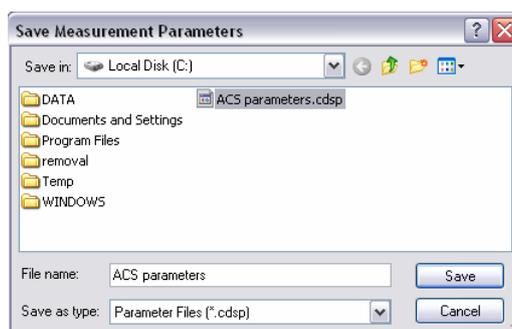

Figure. 4.7 [Save parameters] dialog box
- (2) Select a location to save the spectrum by clicking the arrow on the extreme right in the [Save in] box (in Fig. 4.7, “Local Disk (C)” is selected).
- (3) Input a filename in the [File Name] text box. The extension (after “.”) need not be entered. The output file is saved as a .cdsp format file.
- (4) Click the <Save> button, and the spectrum is saved to disk (the file name in Fig. 4.7 is “ACS parameters”)
- (3) Input a filename into the [File Name] text box. The extension (after ".") need not be entered. The output file is saved as a .cdbsl format file.
- (2) Select a location to save the spectrum clicking the arrow at extreme right in the [Save in] box (in Fig. 4.7, “Local Disk (C)” is selected).
- (3) Input a filename in the [File Name] text box. The extension (after ".") need not be entered. The output file is saved as a .jws format file.
- (4) Clicking the <OK> button saves the spectrum to disk (the filename of Fig. 4.7 is “0.06%d-ACS\_I”).
- (5) In the case when, for example, “Cycle Times” is set to three, three sets of data are saved as xxx\_01.jws, xxx\_02.jws, and xxx\_03.jws.